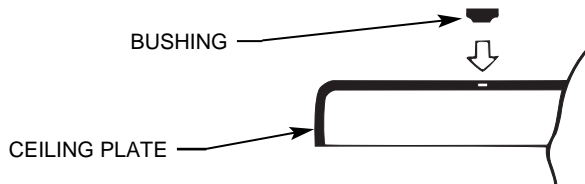

FIGURE 4A
A. Install the (3) rubber bushings into the top of the ceiling plate by inserting small side of the bushing into the three holes in the ceiling plate. See Figure 4A.